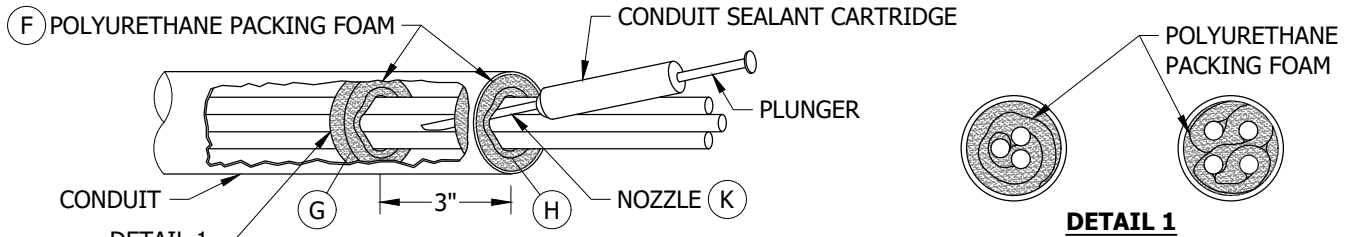

FIGURE 1
- WRAP PACKING FOAM AROUND CABLES AT THE CONDUIT ENTRANCE AS SHOWN IN FIGURE 1. USE AS MANY FOAM STRIPS AS NEEDED TO ASSURE THERE ARE NO GAPS BETWEEN FOAM, CABLES, AND CONDUIT.